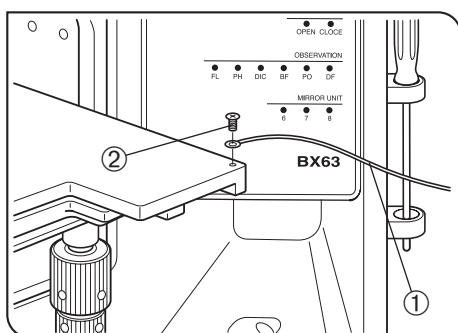

Fig. 31
3 Setting the Grounding (Fig. 31)
- Prepare a grounding wire ① and M4 screw ② and attach grounding as shown in Fig. 31.